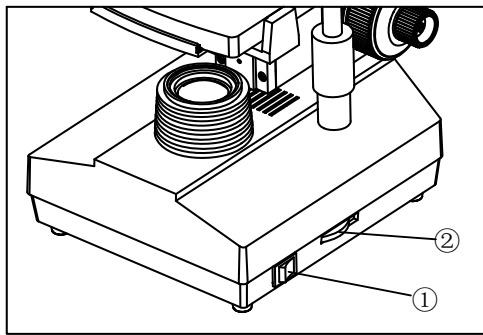

Fig.16
3.2.1 Adjusting the brightness (Fig.16)